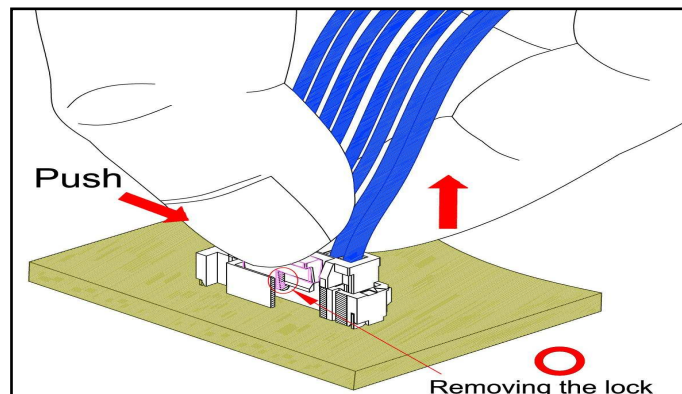

figure 4.1
4.1 Hold the wires together, attach your fingers to the side without the latch and push the thumb latch on the sides. When confirmed that the latch is released, pull the connector upwards. (see figure 4.1)